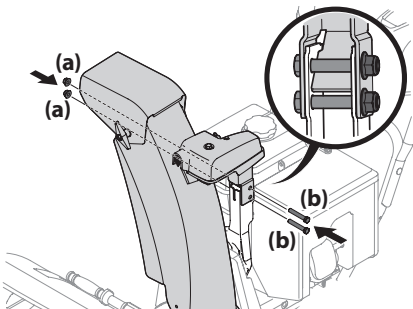

Figure 2-22
3. Secure chute control head to chute support bracket with lock nuts (a) and hex screws (b) removed in Step 1. See Figure 2-22.